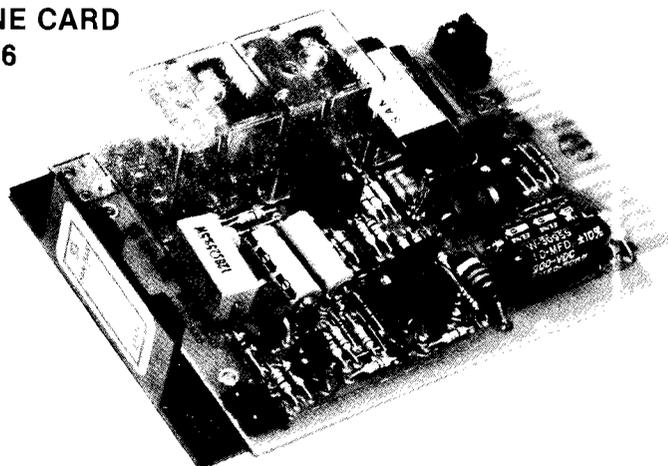

Figure 1 SB4000F-200 Line Card
- 1.2 The SAN/BAR 4000F Line Card (Fig. 1) is a simplified KTU line circuit designed for full compatibility with all types of key telephone systems working in conjunction with central office or PBX/PABX equipment. The SB4000F is also compatible with the W.E. Comkey music-on-hold.
- (a) Figure 1: SB4000F-200